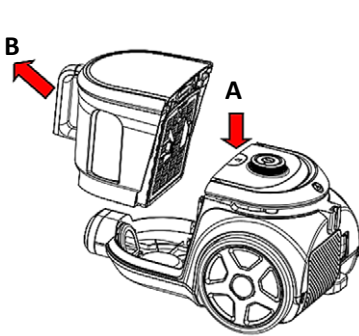

Fig. 7
1. As in **Fig.7**, hold the dust canister and handle and push the release button (**A**).
2. As in **Fig.7**, take the dust canister out of the machine (**B**).